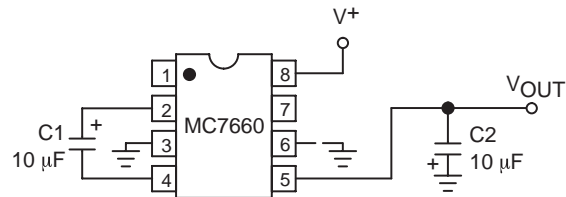
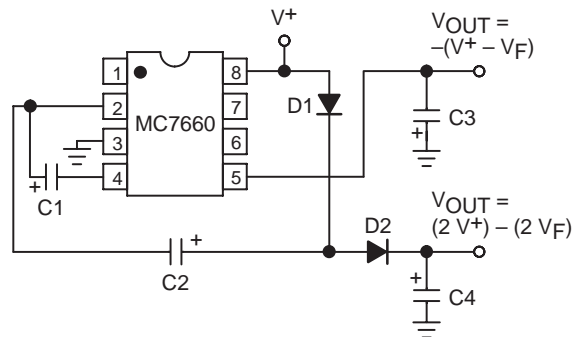
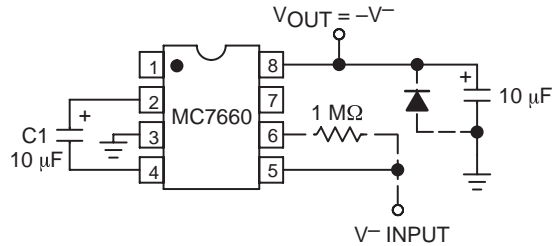
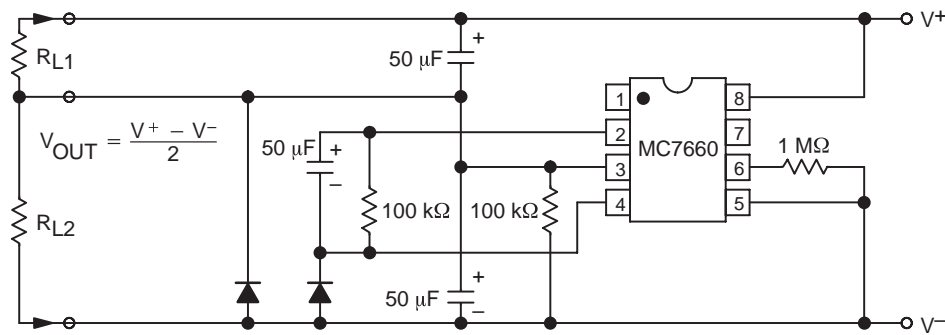

Figure 3. Simple Negative Converter
Figure 9. Combined Negative Converter and Positive Multiplier
Figure 10. Positive Voltage Conversion
Figure 11. Splitting a Supply in Half
Figure 3 shows typical connections to provide a negative supply where a positive supply is available. A similar scheme may be employed for supply voltages anywhere in the operating range of +1.5V to +10V, keeping in mind that pin 6 (LV) is tied to the supply negative (GND) only for supply voltages below 3.5V.
The output characteristics of the circuit in Figure 3 are those of a nearly ideal voltage source in series with 70Ω. Thus, for a load current of -10mA and a supply voltage of +5V, the output voltage would be -4.3V.
Figure 9 combines the functions shown in Figures 3 and 8 to provide negative voltage conversion and positive voltage multiplication simultaneously. This approach would be, for example, suitable for generating $+9V$ and $-5V$ from an existing $+5V$ supply. In this instance, capacitors C_1 and C_3 perform the pump and reservoir functions, respectively, for the generation of the negative voltage, while capacitors C_2 and C_4 are pump and reservoir, respectively, for the multiplied positive voltage. There is a penalty in this configuration which combines both functions, however, in that the source impedances of the generated supplies will be somewhat higher due to the finite impedance of the common charge pump driver at pin 2 of the device.
Since the switches that allow the charge pumping operation are bidirectional, the charge transfer can be performed backwards as easily as forwards. Figure 10 shows a MC7660 transforming -5V to $+5\text{V}$ (or $+5\text{V}$ to $+10\text{V}$, etc.). The only problem here is that the internal clock and
switch-drive section will not operate until some positive voltage has been generated. An initial inefficient pump, as shown in Figure 9, could be used to start this circuit up, after which it will bypass the other (D_1 and D_2 in Figure 9 would never turn on), or else the diode and resistor shown dotted in Figure 10 can be used to "force" the internal regulator on.
The same bidirectional characteristics used in Figure 10 can also be used to split a higher supply in half, as shown in Figure 11. The combined load will be evenly shared between the two sides. Once again, a high value resistor to the LV pin ensures start-up. Because the switches share the load in